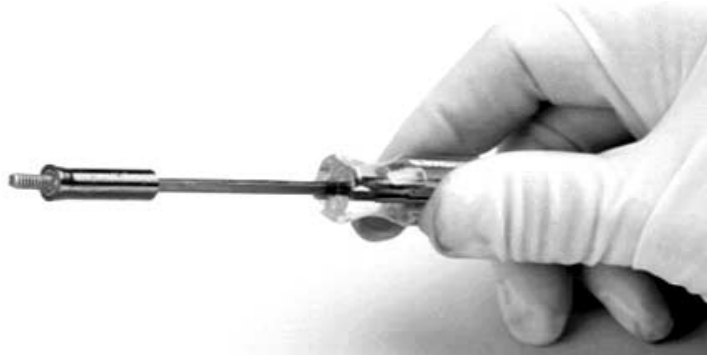

Figure 5-2. Socket-head screw correctly retained by the sleeve on the end of the Allen driver
Step 2: Now you are ready to remove the screws that secure the crucible to the crucible mounting flange. This procedure involves using the special Allen tool provided with the source, which consists of a standard 7/64" Allen driver with a machined sleeve fitted over the shaft (see Figure 5-2). If you are not experienced with this tool, see the detailed instructions in steps 3 and 4 under the heading "Removing the Crucible" in section 3.5. If you are proficient in the use of this tool, proceed directly to step 5.